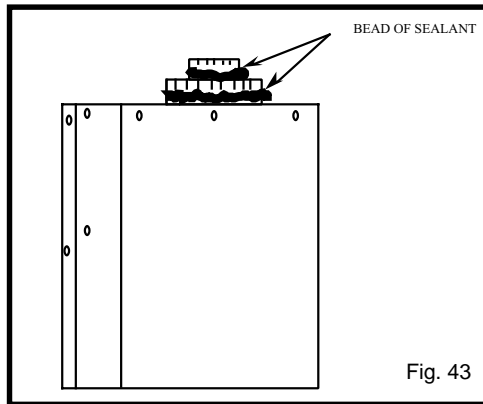

Fig. 43
(Fig. 43) Apply a bead of high temperature sealant to the inner and outer flue collars of the fireplace and using appropriate venting component(s) attach to fireplace with three (3) screws. Follow with the installation of the inner and outer elbow. Again secure joints with three (3) sheet metal screws. Wipe off any excess high temperature sealant.